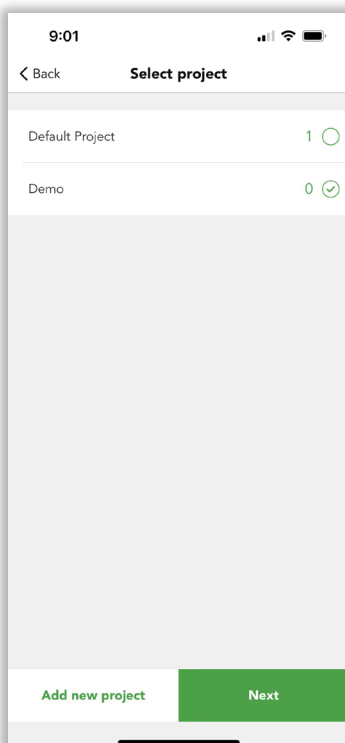

Figure 3.3 Select project
3. Select identity and "add". (see figure 3.3).